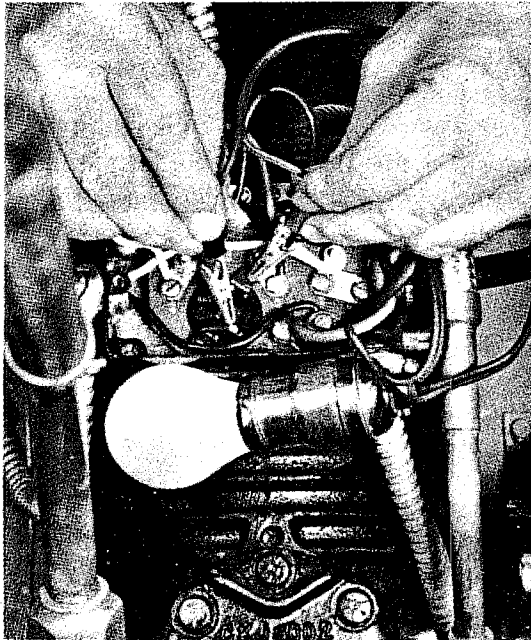

Figure 150
6. If the compressor has an external protector, check for continuity through the protector or protectors. (See Figure 150)